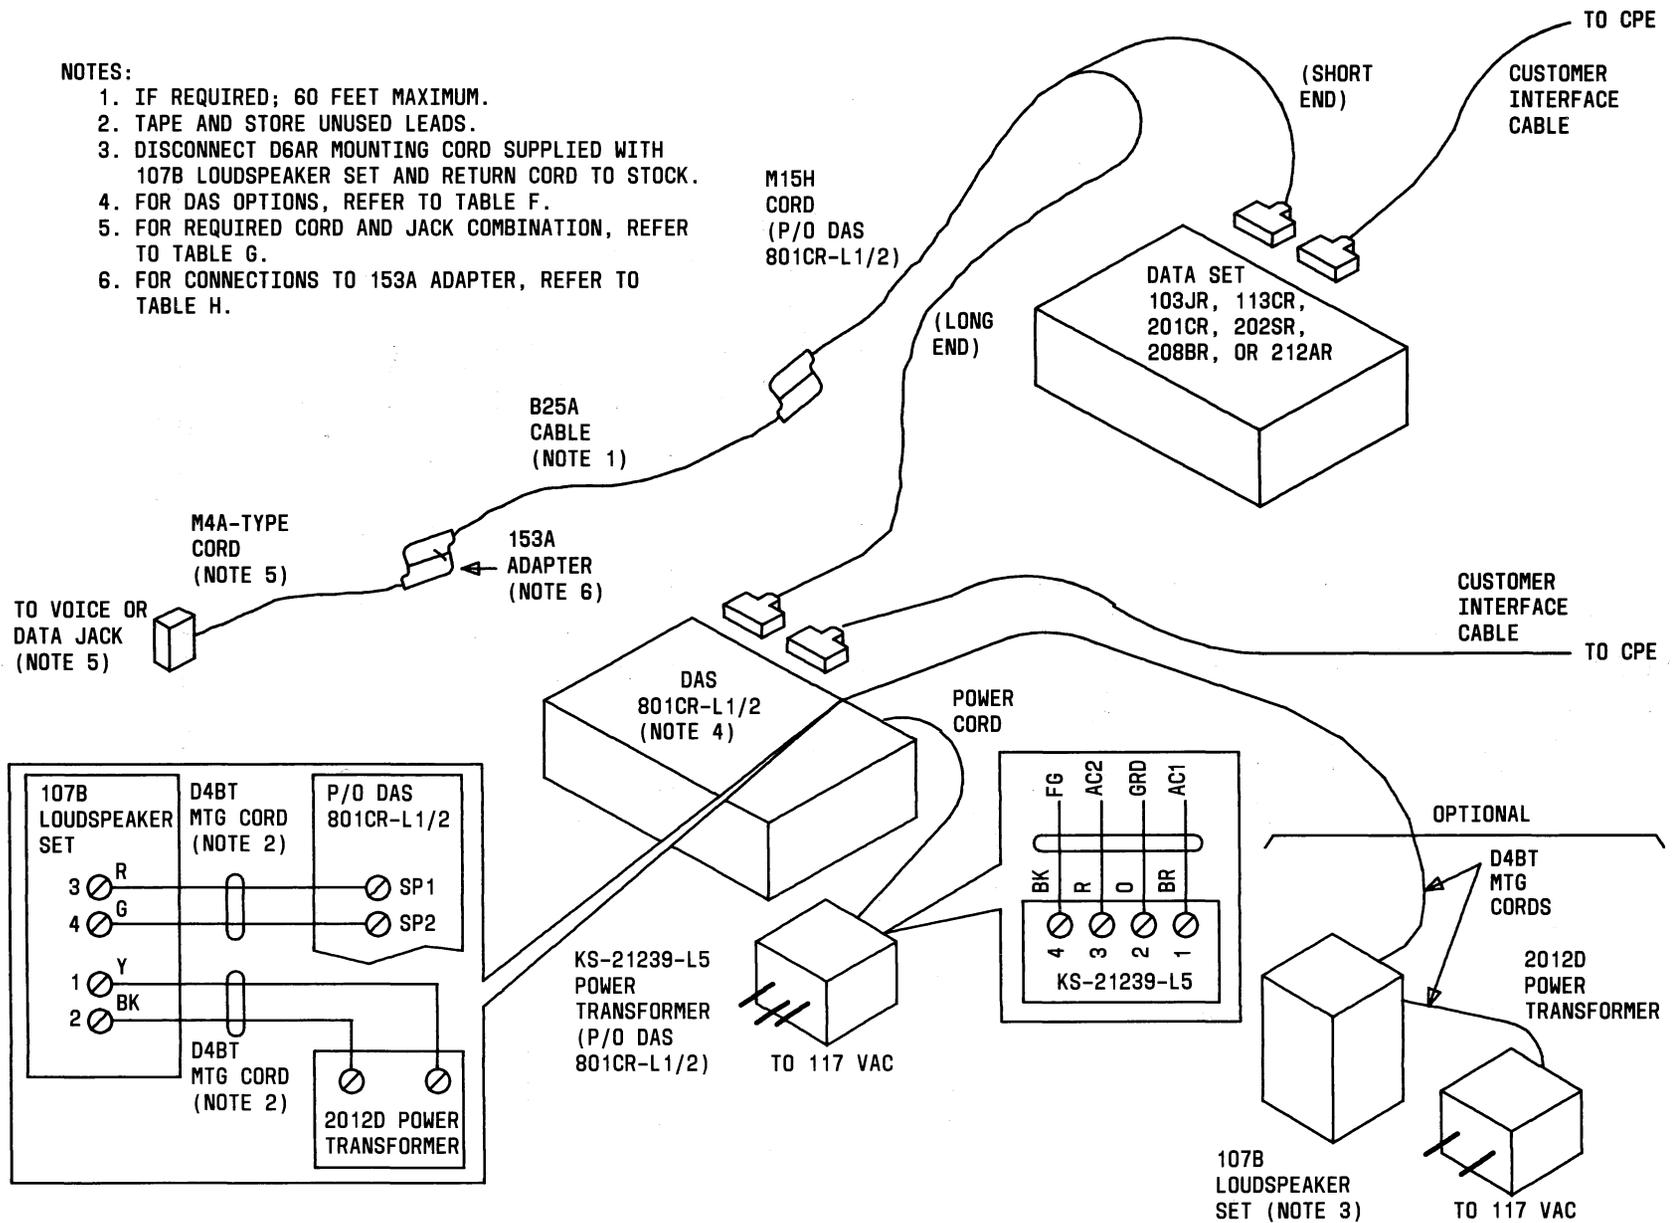

Fig. 4—Single ACU With Data Set 103JR, 113CR, 201CR, 202SR, 208BR, or 212AR
6.02 Registered Arrangements: Figures 4 through 8 provide connection information for the ACU when used with registered data sets 103JR, 113CR, 201CR, 202SR, 208BR, or 212AR. Table F provides option information for the ACU